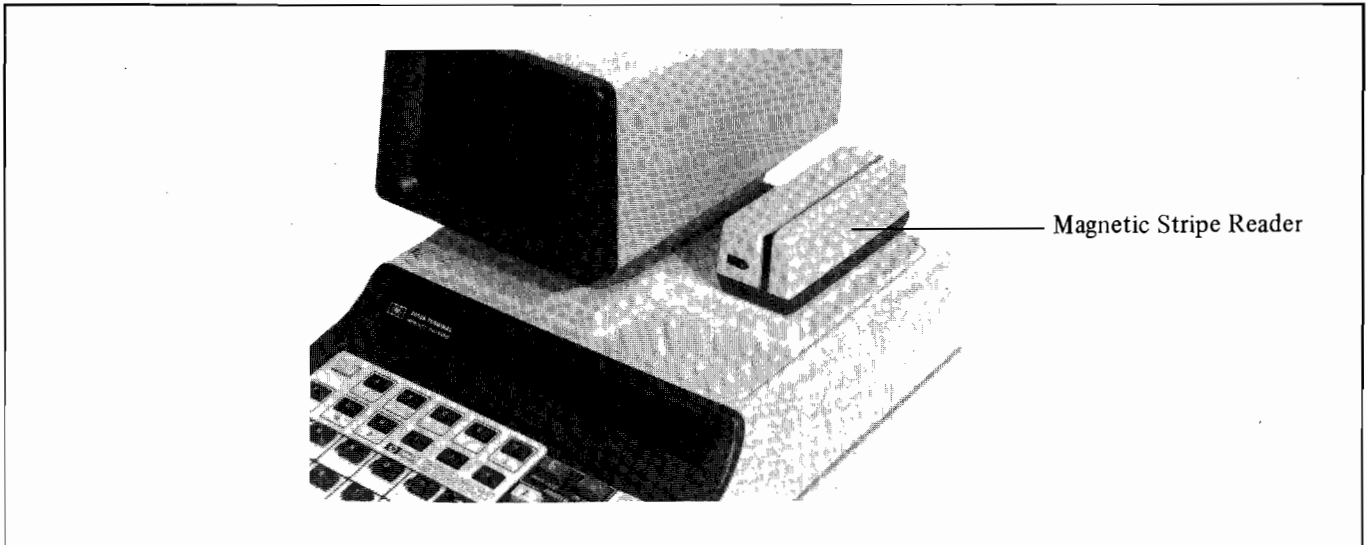

Figure 11-1 The Magnetic Stripe Reader
- 2) With the magnetic stripe on the same side as the arrow on the Magnetic Stripe Reader (see figure 11-1)